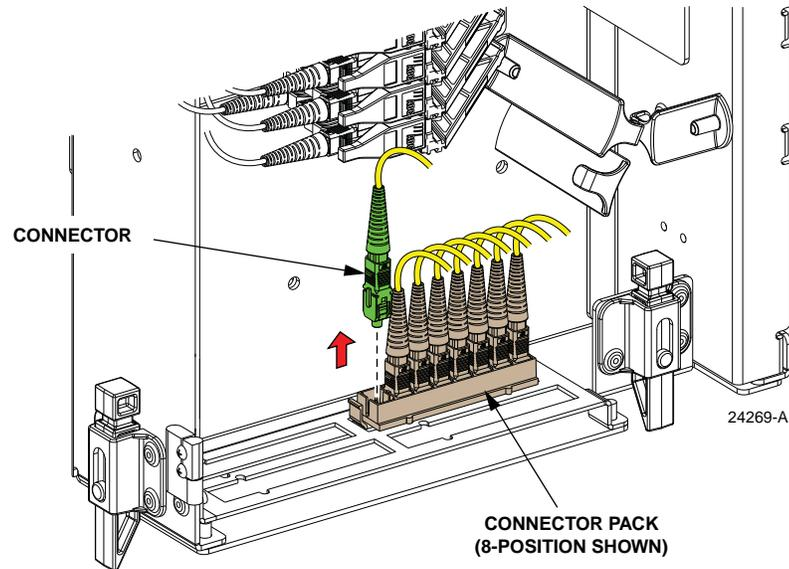

Figure 59. Remove Connector from Connector Pack
5. Select and remove an unused splitter output fiber from the storage panel as shown in Figure 59 and carefully work it free of any other fibers.